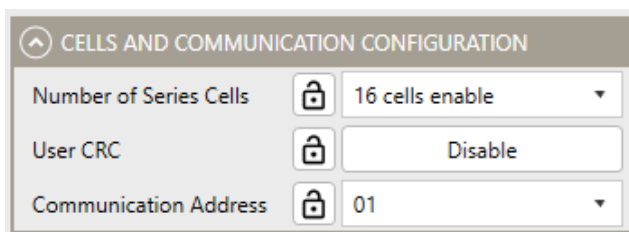

Figure 10: Cell and Communication Configuration
6. Configure the cells and their communication (see Figure 10 on page 10).